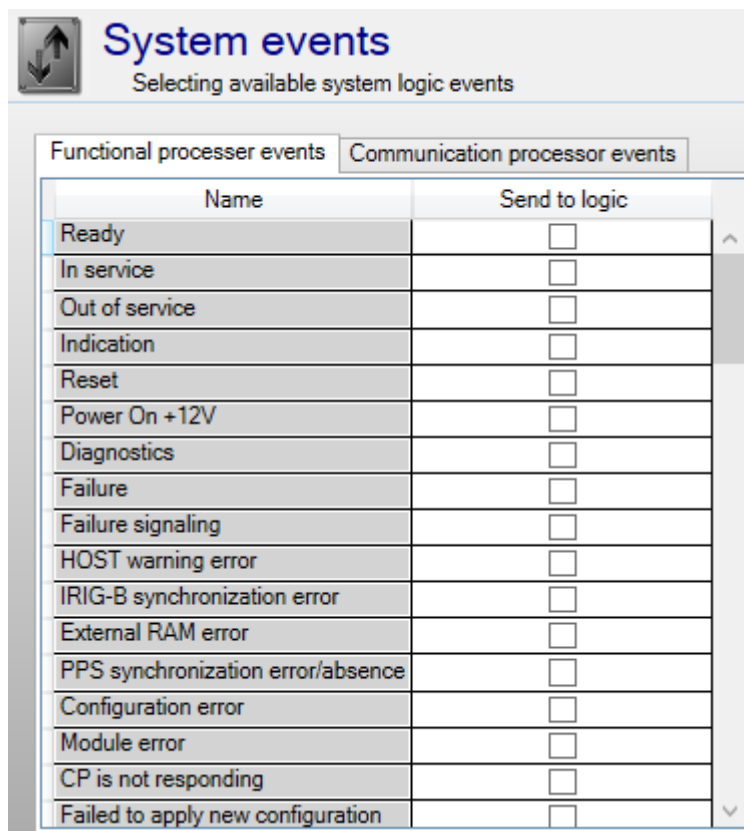

Figure 207 – **System events** window
The **System events** window, device tree menu **Logic part** → **Logic** → **System events** (figure 207), is designed for transmitting system events to the logic. It consists of a list of events of the communication (CP) and functional (FP) processors.